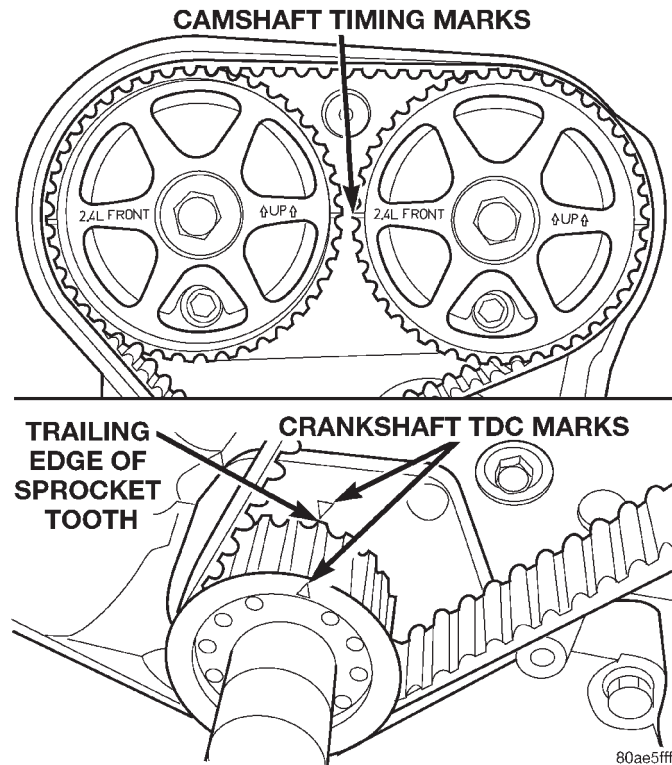

Fig. 59 Crankshaft and Camshaft Timing
- (9) Before the removal of the timing belt, rotate crankshaft until the TDC mark on oil pump housing aligns with the TDC mark on crankshaft sprocket (trailing edge of sprocket tooth) (Fig. 59).